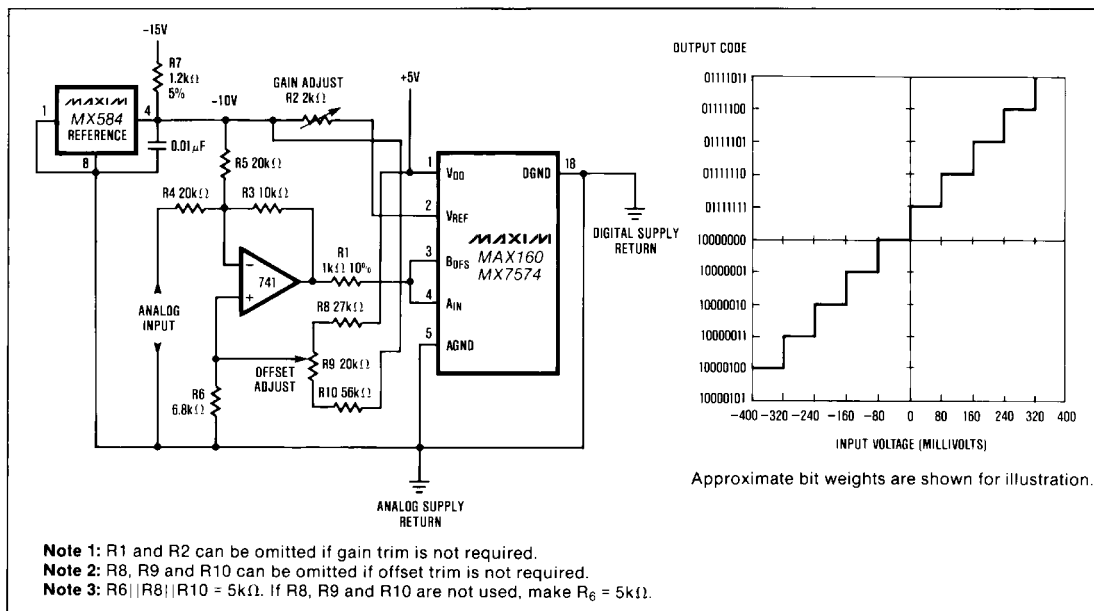

Figure 12. Bipolar (-10V to +10V) Operation and Nominal Transfer Characteristic Around Major Carry (Output Code is Complimentary Offset Binary)
Offset error in the transfer function can be trimmed by offsetting the buffer that drives the A_{IN} input. This can be achieved either by summing a cancellation current into the amplifier's summing junction, or by tapping a voltage divider which sits between V_{DD} and V_{REF} and applying the tap voltage to the amplifier's non-inverting input. An example of the latter method can be seen in Figure 12.
If offset trimming is required, it must be done in the signal conditioning circuitry used to drive the A_{IN} input in Figure 10. See also the offset trim example shown in Figure 12.
Figure 11 illustrates the analog circuitry and transfer function for bipolar operation. The output coding is offset binary. Offset correction can be performed at the buffer amplifier used to drive the signal input terminals of the MAX160/MX7574. See Figure 12 for an example of how offset trimming can be performed. Calibration is as follows:
Figure 12 shows the analog connections for offset binary operation. The typical transfer characteristic is also shown. In this bipolar mode, the input signal (-10 to +10V) is conditioned and the A/D basically operates in unipolar mode (0 to +10V). Calibration is as follows (offset adjusted before gain):
1. Apply 0V to the analog input shown in Figure 12.
1. Apply -9.922V across the analog input terminals shown in Figure 12.